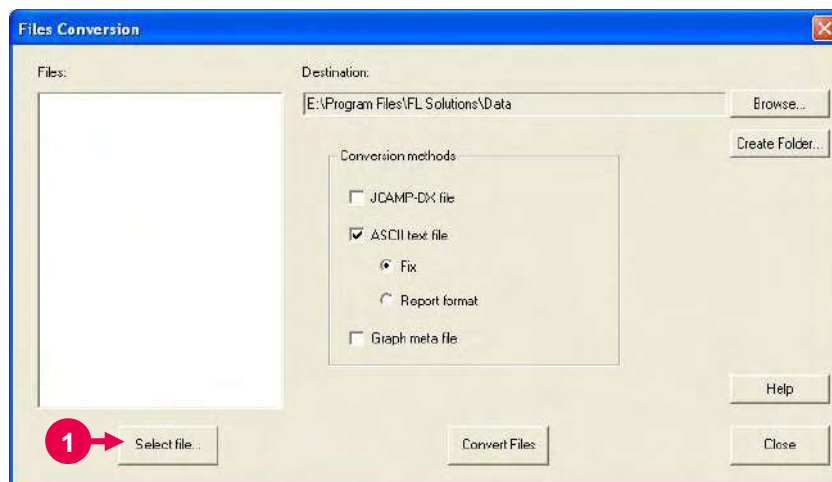

Fig. 8-26
A window as in Fig. 8-26 will appear.
- (2) Click the **Select file** button. (Refer to ① in Fig. 8-26.)